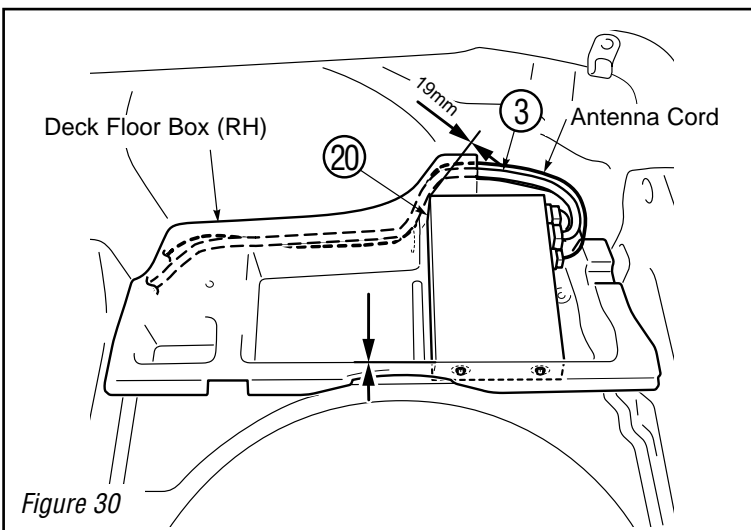

Figure 30
4. Route the harness and antenna cord through the cut hole as shown in figure 30, and connect it.